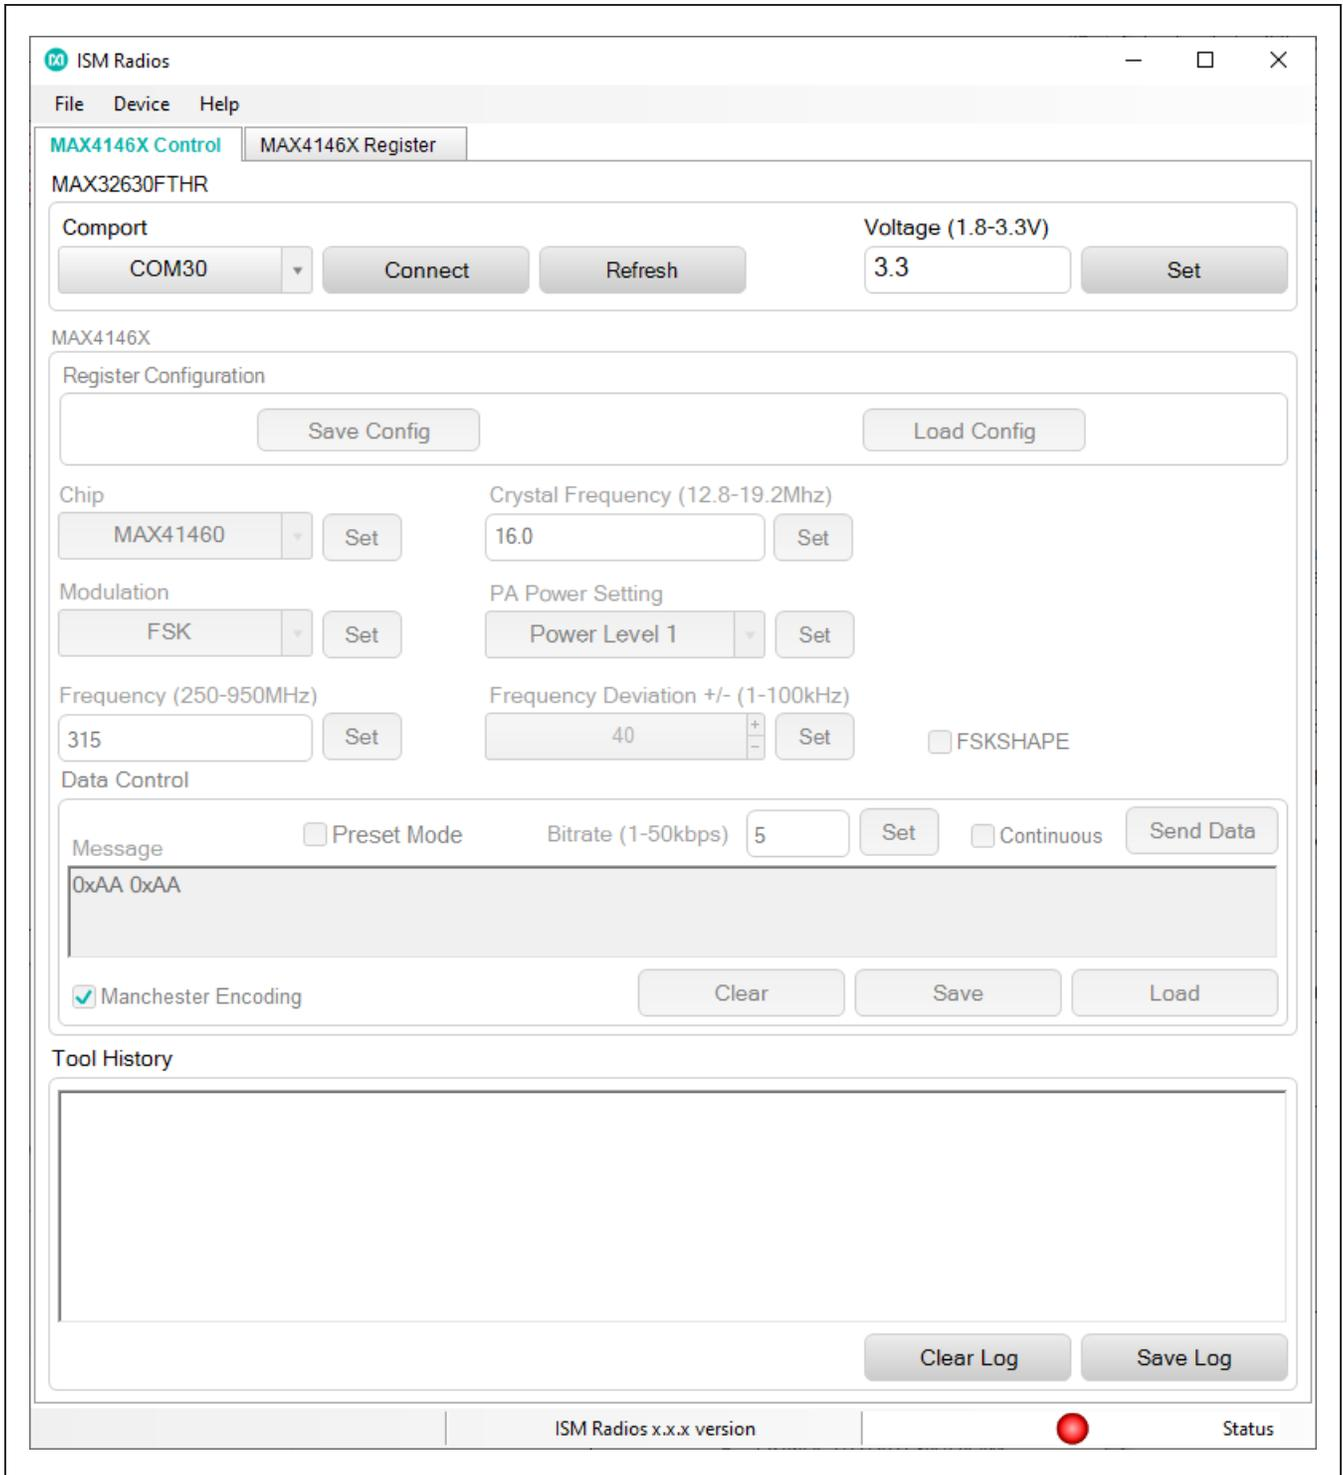

Figure 4. ISM Radios GUI Software
- b. The pop-up window asks to select a device from the 'Device' menu to get started. Click <OK>. Under the Device menu option, select MAX4146x-Tx. The GUI tabs populate in the window (Figure 4).